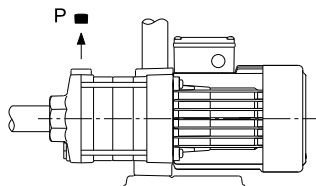

Fig. 4 Priming plug
2. Remove the priming plug P. See fig. 4.